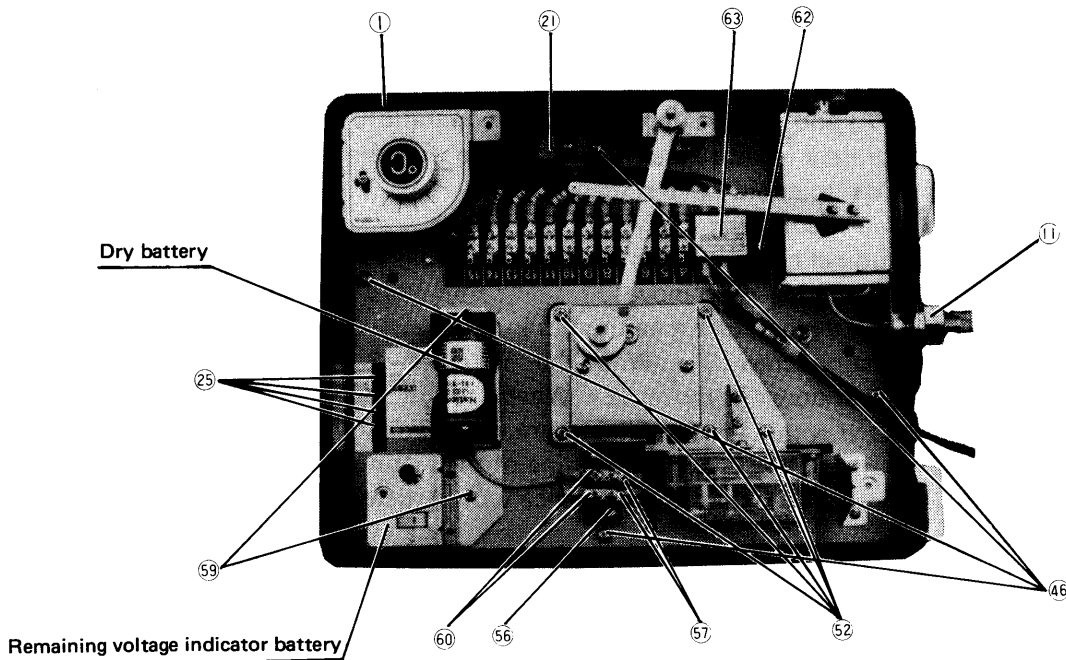
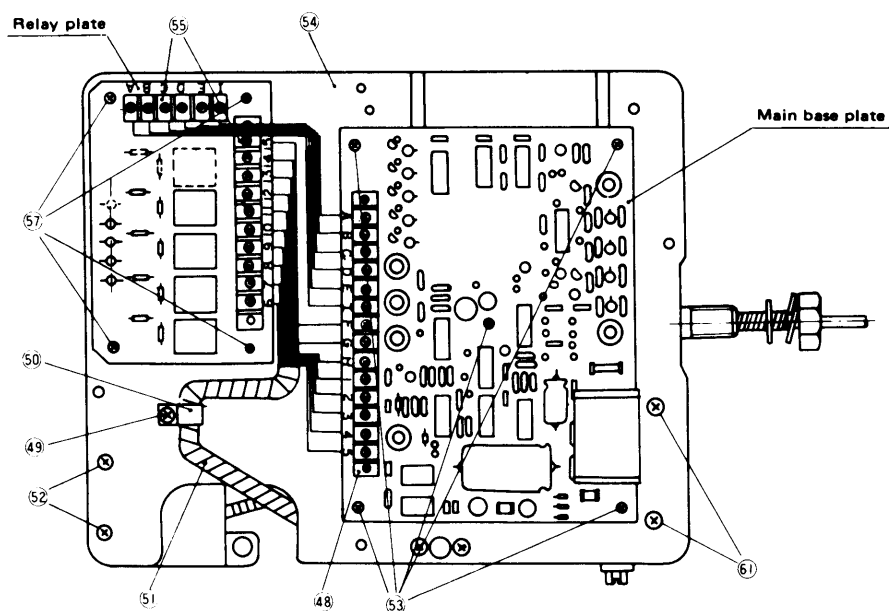

Fig. 3 Internal structure
Fig. 4 Internal device assembly
- (1) Remove the recording plate from the body (1) (See Article b. (2)●) When it is remove, it looks as shown in Fig. 3. In this state, sensor, timer, remaining voltage indicator and batter and dry battery are replaced.
- (2) Remove the internal device assembly. Loosen four hexagnal nuts (11) and screws (46) and remove the internal device assembly from the main body (1) and turn it back. Then it looks as shown in Fig. 4.
(2) Measuring resistance of the volume setter
- Adjust the volume setter as shown in Fig. 4 in accordance with Article D,(2).
- Remove the lead wires (3 pcs, F. G. H.) which are laid from the volume setter from the terminal (48) (14P) on the terminal strip of the main base plate and measure resistance between G and H of the lead wires.
(3) Replacing points
- From the state of the volume setter as shown in Fig. 4, loosen screw (49), remove power source plug (50), remove the spiral tube (51) from the wires. Then remove two screw bolts (52) and the volume setter can be removed from the base (54).
- After replacing the volume setter with a new one, inspect and adjust it in accordance with Articles c. (1).① and c. (1).②
② Main base plate
(1) Replacing standards
(2) Replacing points
- Adjust the volume setter as shown in Fig. 4 in accordance with Article D,(1).
- Remove the wires (14 pcs Nos A ~ H, 1 ~ 5) from the terminal strip (48) on the main base plate.
- Remove 5 screws (53) to remove the base (54) from the main base plate, so replace it with new one.
③ Relay base
- Adjust it as shown in Fig. 4 in accordance with Article D,(1).
- Remove the wires (14 pcs No. A ~ E, F ~ H, I, 1 ~ 5) from the terminal strip (55) on the relay base plate.
- Loosen four screws (57), and the relay base plate can be removed from the base (54). So replace the relay base plate with a new one.
④ Sensor
- In case the pilot lamps for functioning temperature (25) remain unlit although the power source is turned on.
- Remove the recording board, (state shown in Fig. 3). Loosen the screws (62) to remove protection board for impressed voltage (63) loosen terminal screws (Nos. 1 to 3) on the terminal strip (21) and remove the wiring. Then, measure temperature of the feeler part and resistance of the sensor and compare them with the characteristics of temperature resistance shown in Fig. 10, and if they do not accord with them, replace the sensor. If they accord, the main base plate or the volume setter is out of order. So replace it in accordance with Articles D,(2).① and D,(2).②
(2) Replacing method
- Since numbers (1, 2, 3. . .) are described on the sensor lead wires, so connect them to the terminals having the same number on the terminal strip (21).
- After replacement, inspect and adjust the sensor in accordance with Articles C,(1).① and C,(1).②
- Replace the recording board, and insert a battery so as not make a mistake in polarity as in the state of Fig. 3 (Fig. 3 shows polarity of a battery). It is advisable to use a battery similar to SUM-2 of JIS C8501 and R14 of IEC. (Dry battery DC1.5V)
② Remaining voltage indicator battery
- Remove the recording board (state shown in Fig. 3). Loosen two screw bolts (59) and two screw bolts (60), and the remaining voltage indicator battery can be removed from the indicator body. So replace it with a new battery.
- When replacing, connect the wires to the terminal strip (56) in a way red wire to red and black wire to black.
③ Timer (Quartz motor reducing gears)
- Although remaining voltage of dry battery is correct (confirmed in accordance with Article b. (2). ③ the quartz motor does not start.